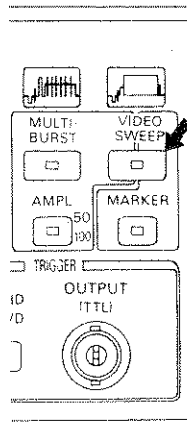

Figure 4.10
4.2.8 Selecting the sweep width (See Figure 4.10)